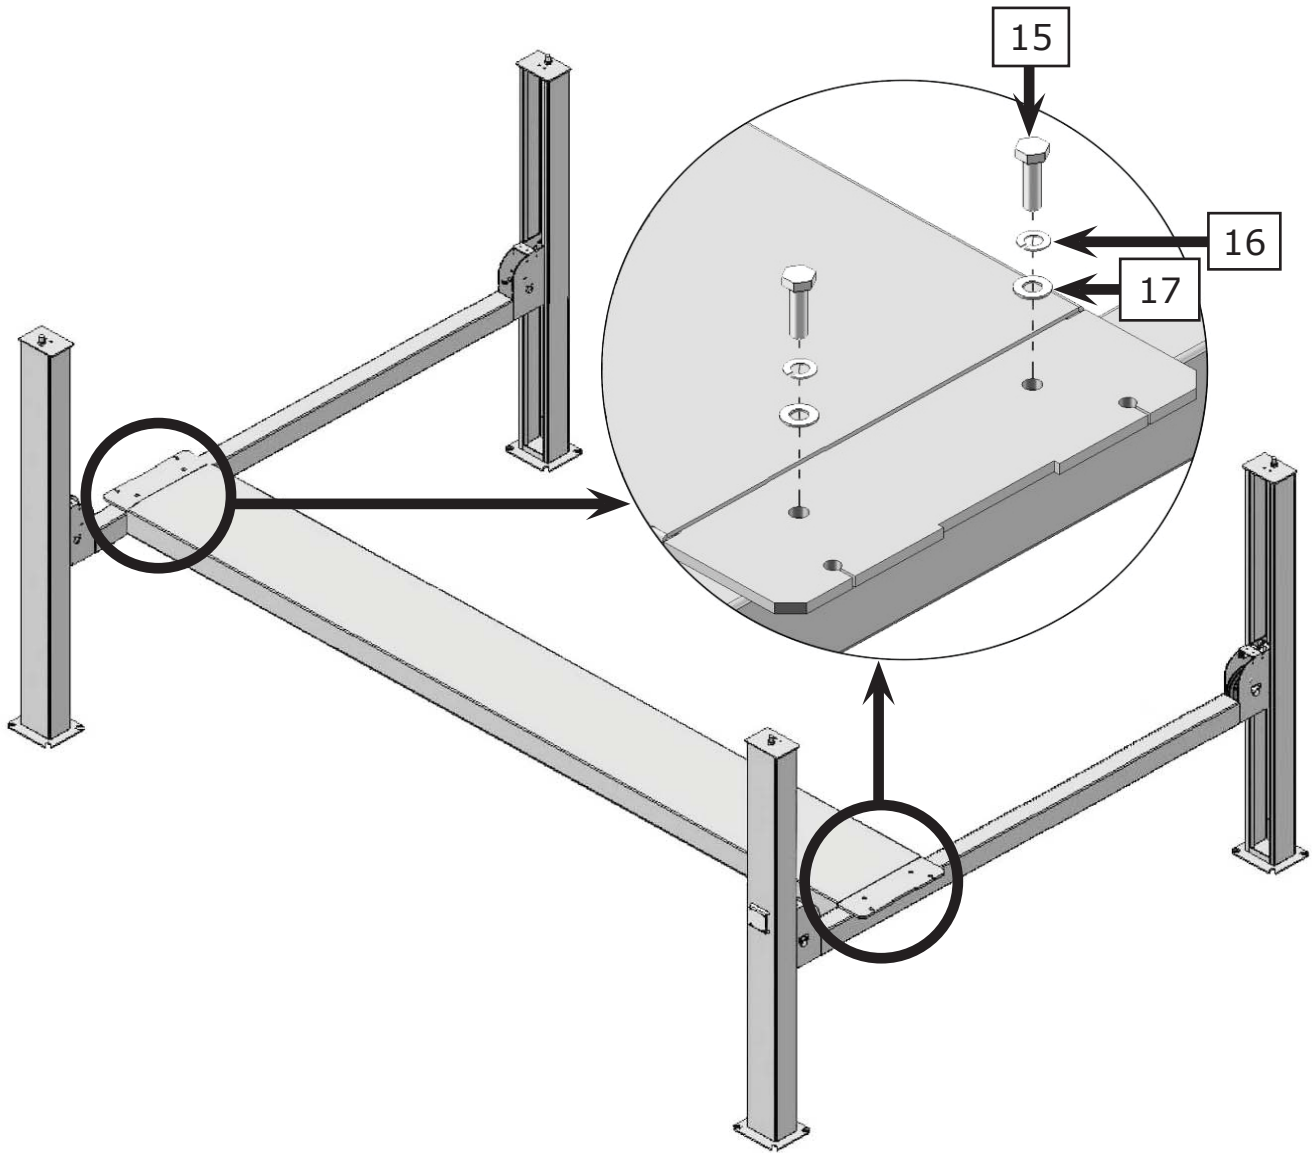

Fig. 19
2. Install the platform to Cross Beam with a forklift or other lifting device (See Fig. 19).